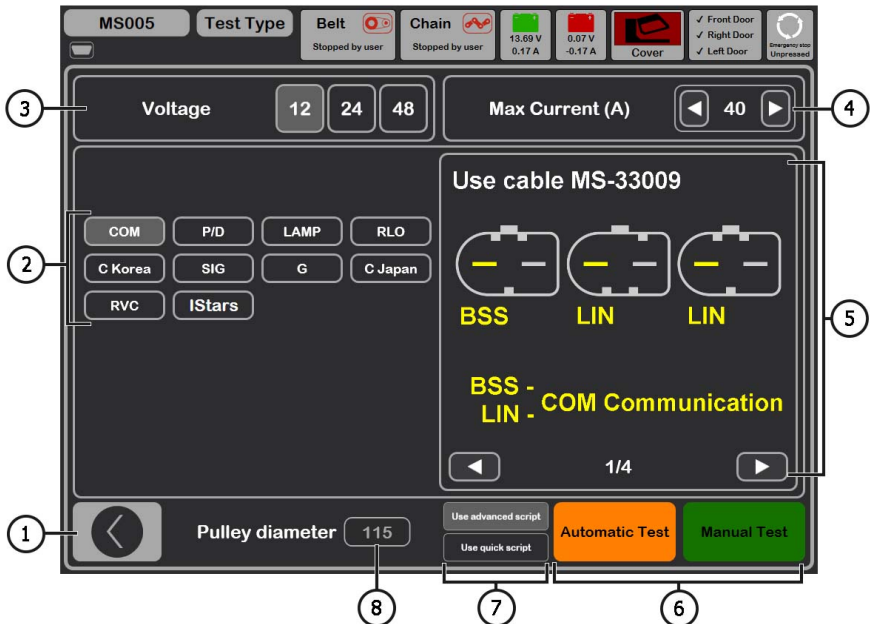

Figure 22. Menu for Selecting the Diagnosed Alternator Type
When the alternator diagnostic mode is activated, a menu for selecting the type of diagnosed alternator opens (see Figure 22), which includes:
7 - Control of the load on the alternator, the value is set in percentage of the value set in menu item 4 of Figure 22.
"**Pulley RPM**" – Rotation frequency on the alternator pulley. If the pulley size is not specified in menu item 8 of Figure 22, the drive revolution value is displayed.